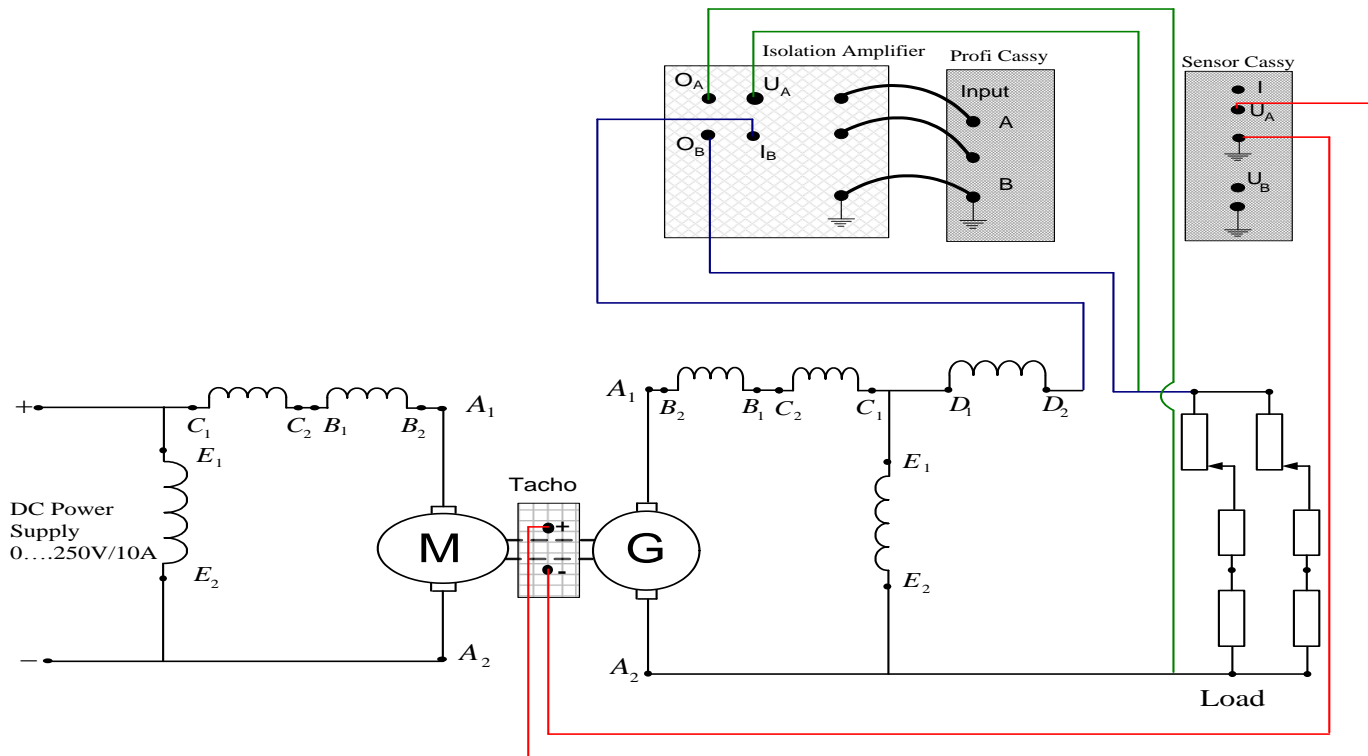

Figure 4: Cumulative Compound DC Generator Set Up
36. Connect the circuit as shown in Figure 4 using Cassy measurement Connection for load voltage, for load current, and for rotor speed. Note that at this stage the load resistance value has to be at 100%.